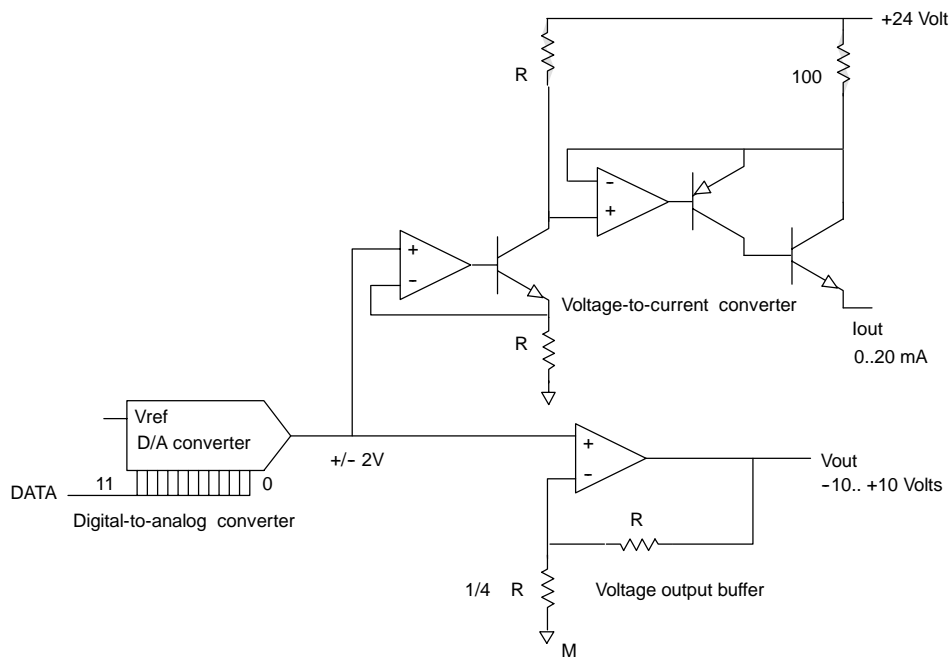

Figure A-18 Output Block Diagram for the EM 232 and EM 235
- Short the inputs for any unused channels, as shown in Figure A-18.